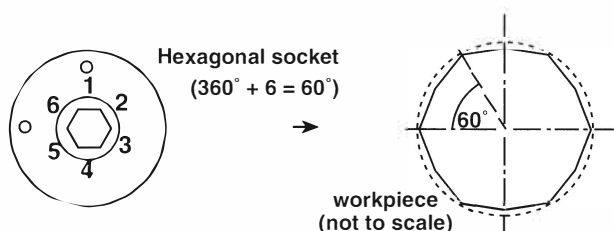

Fig. 3.
1. Turn the first of your six sides, with the ball drive aligned with side '1' (see Fig. 3., below).